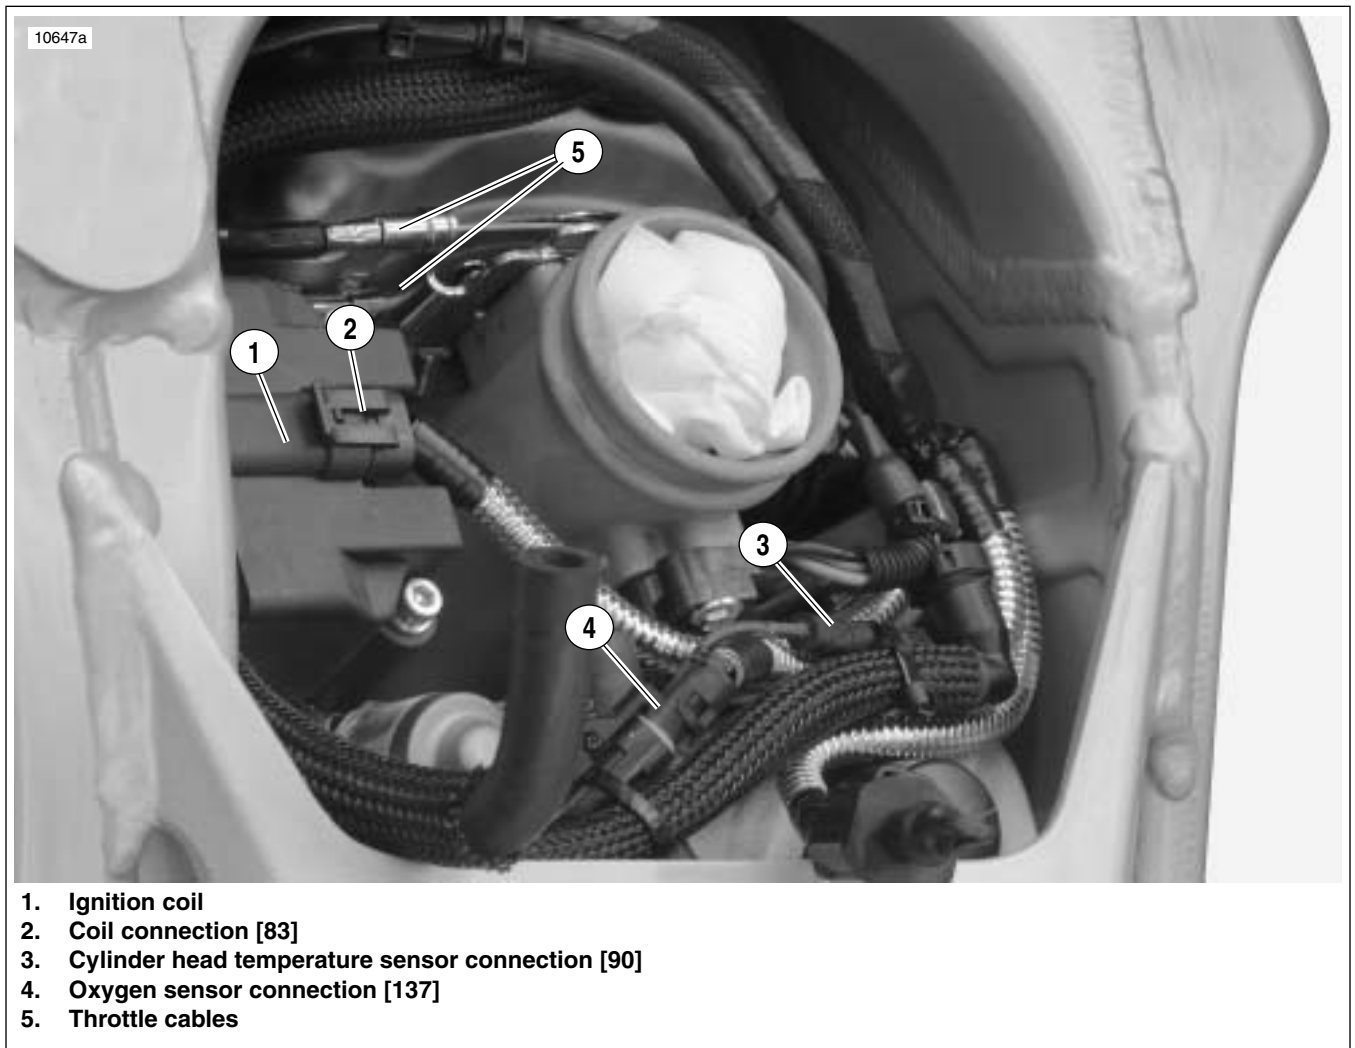

Figure 3-2. Electrical Connections and Throttle Cables (Typical)
11. See Figure 3-2. Disconnect the ignition coil (2) [83] and remove.
- a. Temperature sensor (3) [90].
- b. Oxygen sensor (4) [137].